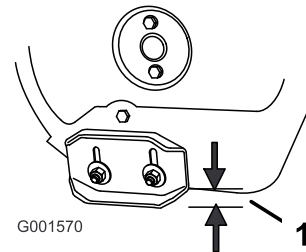

Figure 37
2. Loosen the nuts that secure both skids to the auger sides until the skids slide up and down easily (Figure 37).